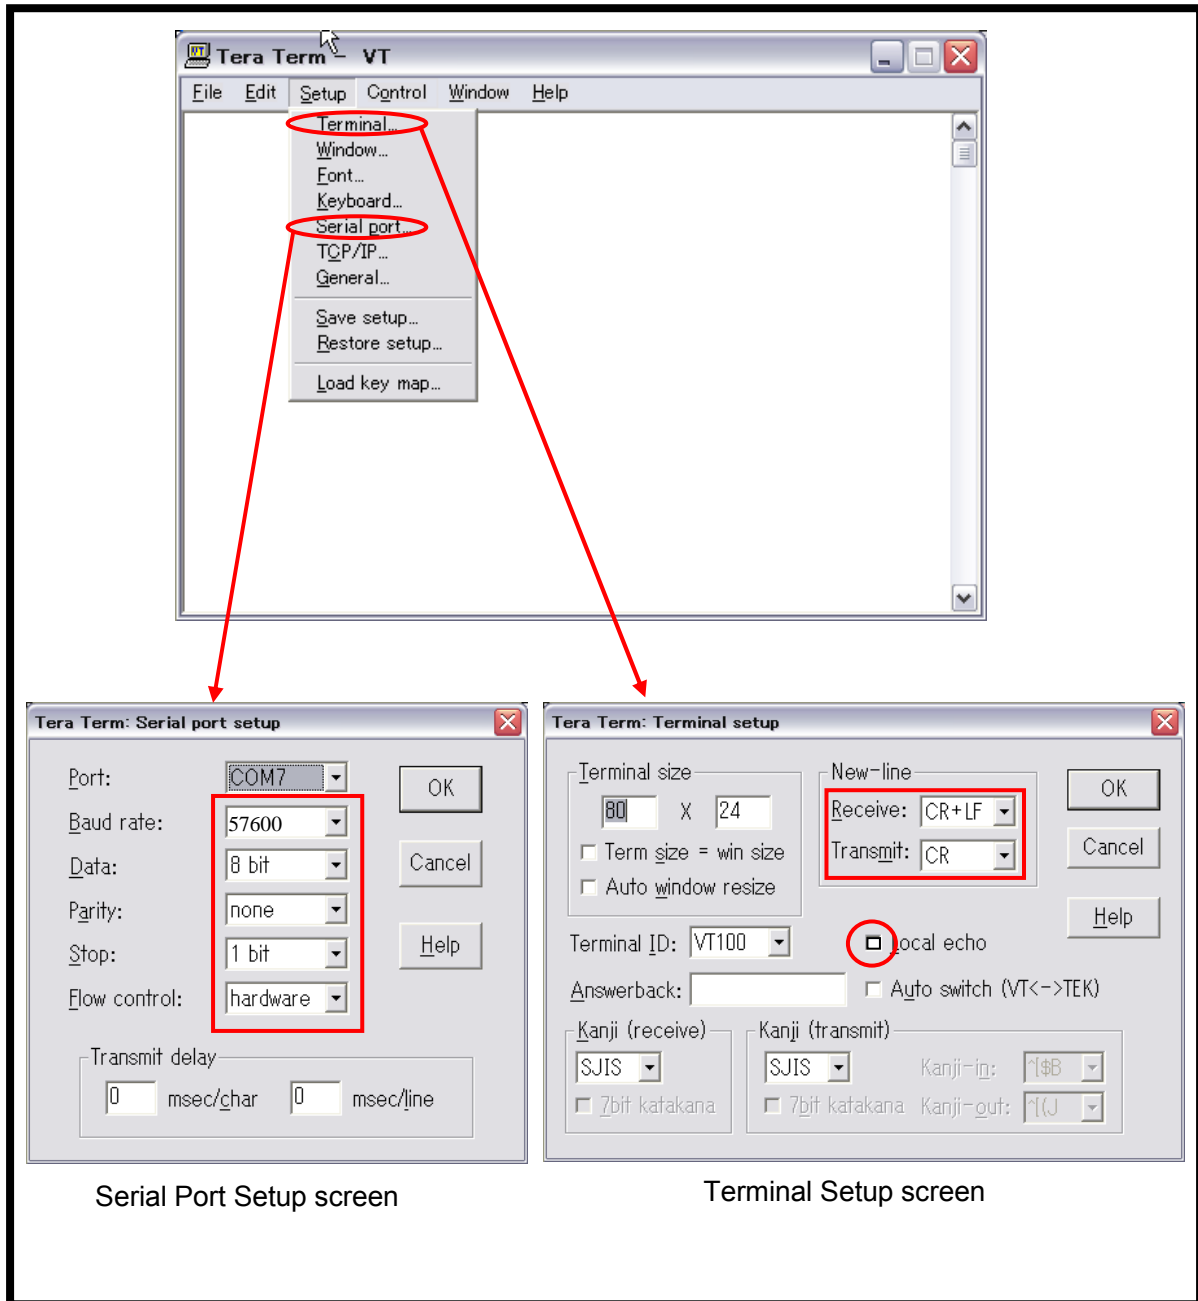

Figure 4 Tera Term Communication Settings
- (6) Select "**Serial**", then in the "**Port:**" combo box, select a COM port to use.
- (7) When it has started, from the "**Setup**" menu, select "**Serial port?...**", change the settings by referring to Figure 4, then click the "**OK**" button.
- (8) From the "Setup" menu, select "Terminal...", change the settings by referring to Figure 4, then click the "OK" button.